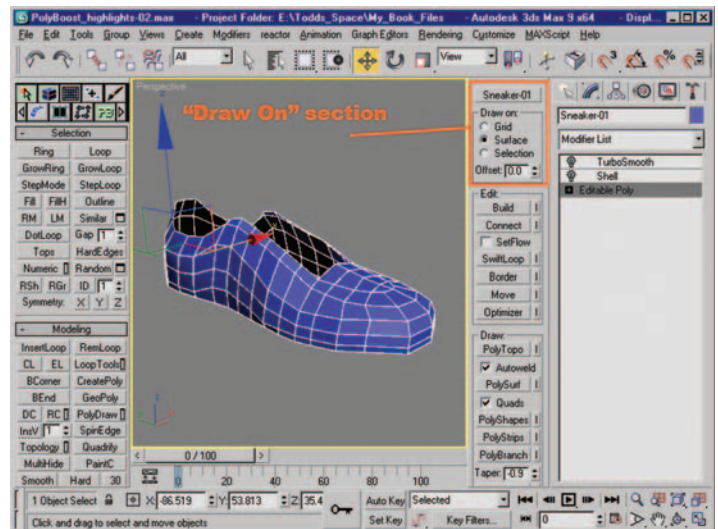

Figure 12.20 Draw on section highlighted after selecting Surface and the Sneaker mesh with the Pick button.
23. Click on the Pick button and select the Sneaker mesh. The word “Sneaker” should replace the word “Pick” on the button. Figure 12.20 shows the PolyDraw Draw